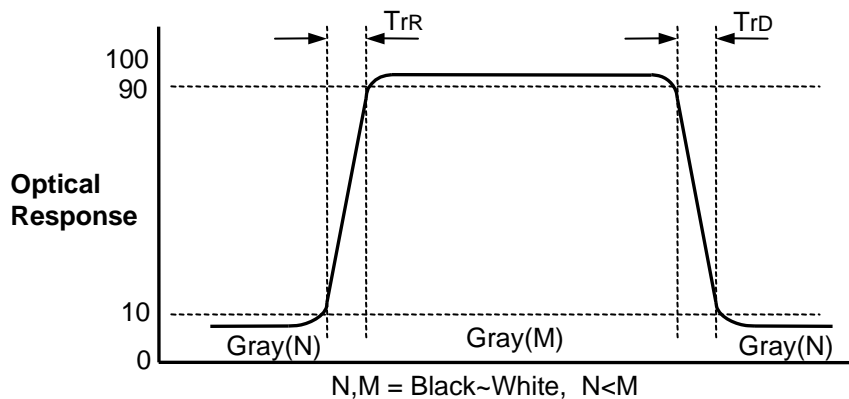

FIG. 3 Response Time
4. Response time is the time required for the display to transit from G(N) to G(M) (Rise Time, Tr_R) and from G(M) to G(N) (Decay Time, Tr_D). For additional information see the FIG. 3. ($N < M$)